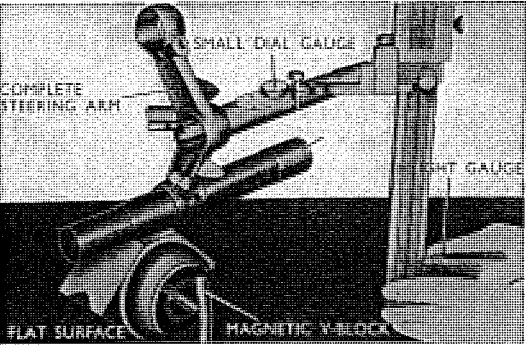

Fig. 4.26 Measurement of steering stem bending
4. Measurement of bending and twisting of the steering stem. (Refer to Fig. 4.26)